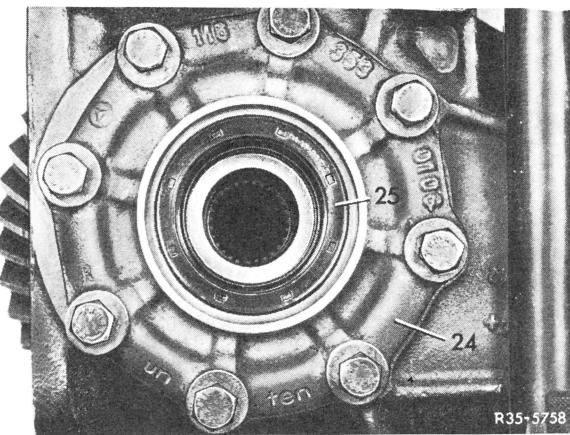

Fig. 5
- 6 Remove lateral bearing covers (Fig. 5).